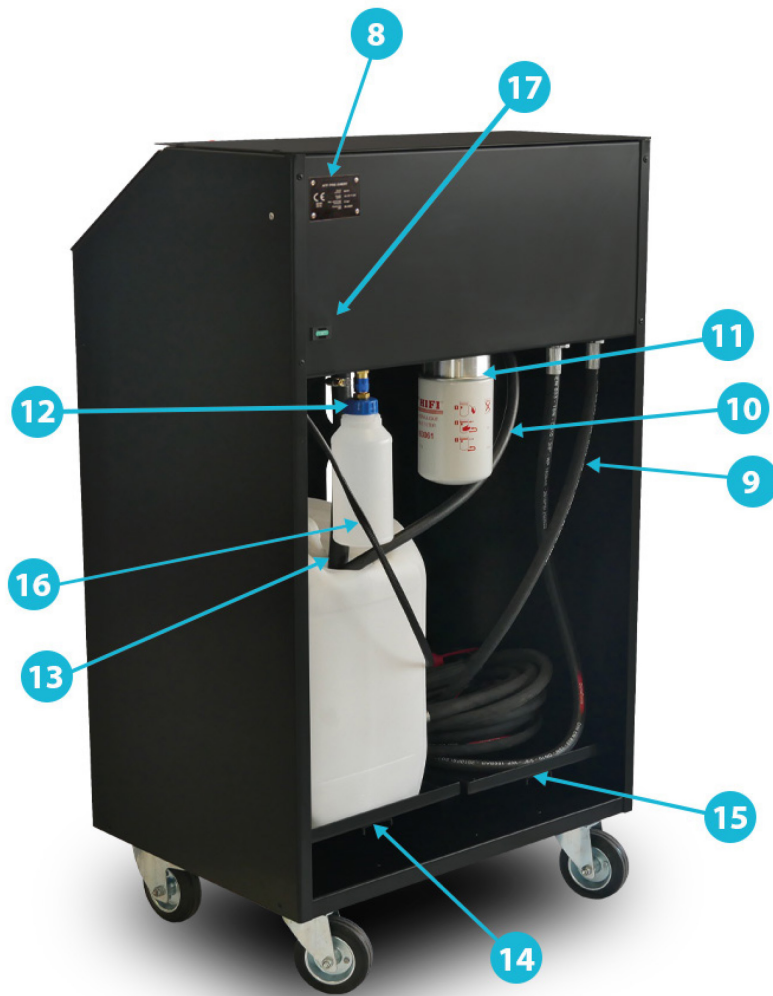

Figure 2. Rear view of the device.
**Remove the caps from the fluid lines before using the unit. Do not remove the metal fluid nipple from the suction hose (Figure 2, para. 13).**